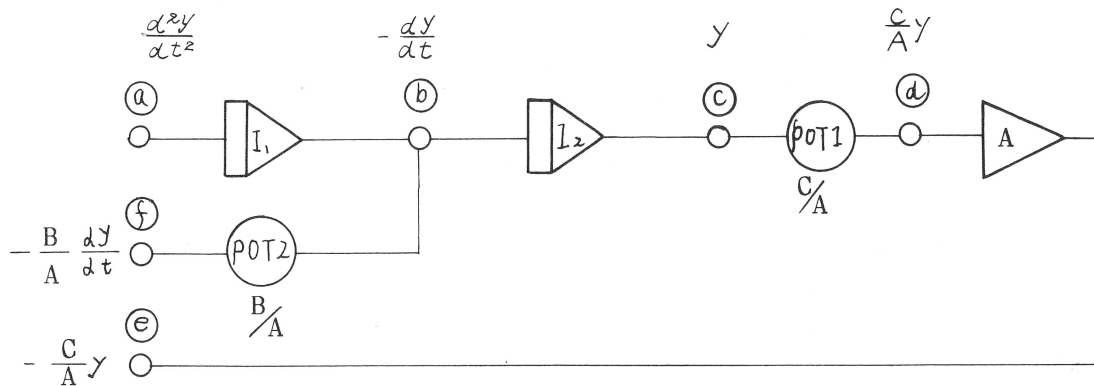

Fig. 10-1
- 2) Supposing $\frac{d^2y}{dt^2}$ is obtained make the block diagram as Fig. 10-1.